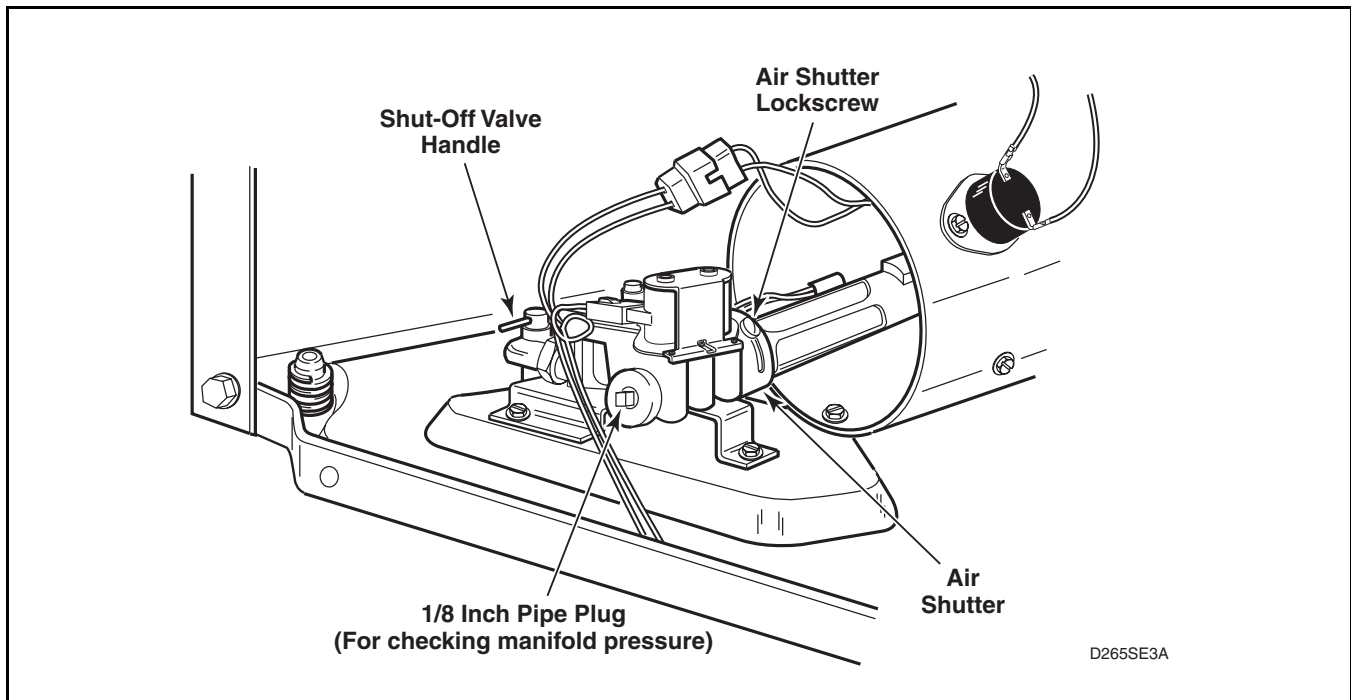

Figure 9
- e. Allow the dryer to operate for approximately five minutes, then loosen the air shutter lockscrew. Refer to *Figure 9*.
- g. After proper flame is obtained, tighten air shutter lockscrew firmly. Refer to *Figure 9*.